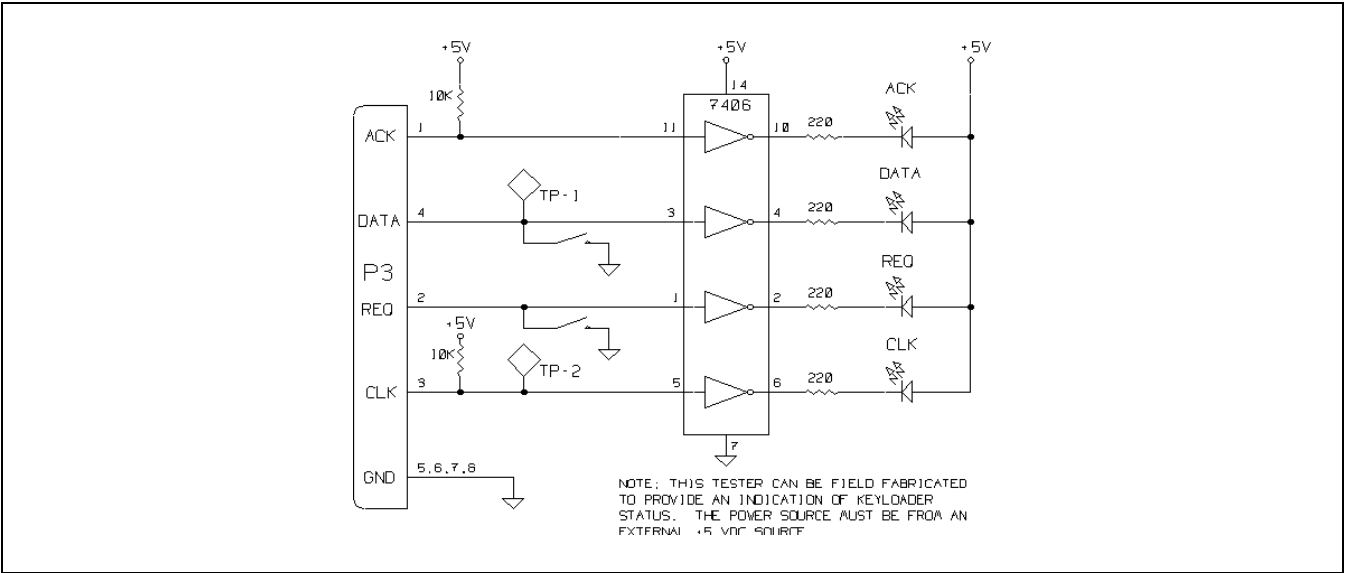

Figure 2 - Schematic Diagram Of The Keyloader Tester
6. Once the Keyloader comes up, log-on in the Test Mode and conduct tests O through E. Tests 4 through C and test E require the construction of a tester as shown in Figure 2. See Table 2 in this manual, and the Operator's Manual for further details.